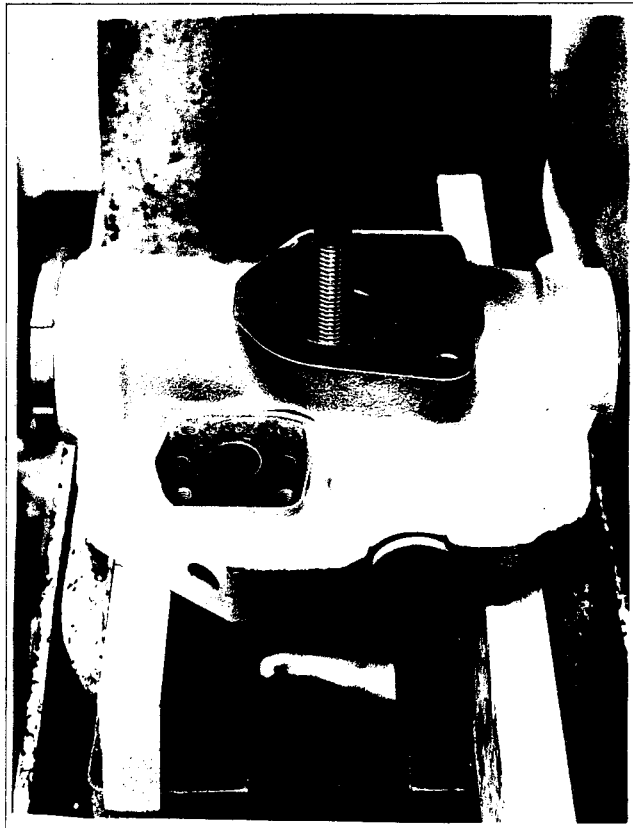
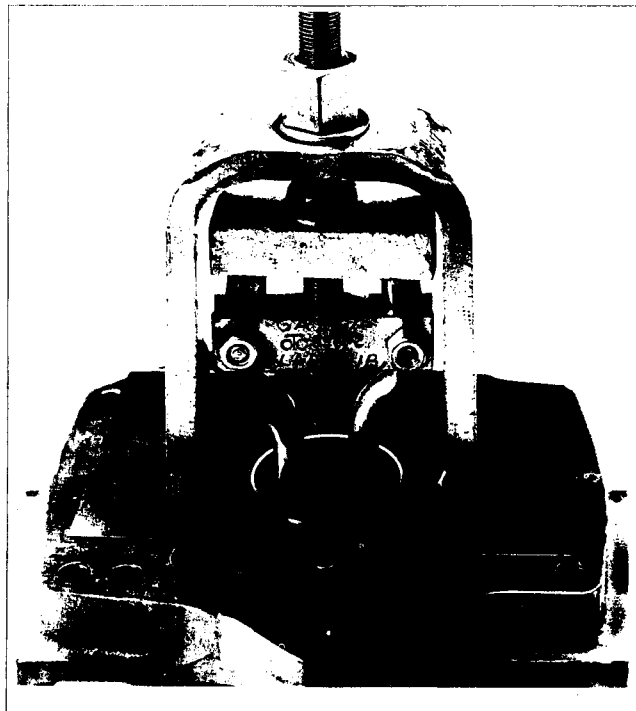

Figure 20. Removal of bearing race from valve block.
Figure 20a. Removal of bearing race from valve block with blind hole.
3. For PVE19/21, remove bearing race (63) from valve block (36). The PVE12 roller bearing is in the valve block. Refer to Figure 20 for removal information and use tool shown in Figure 10 for PVE**G units. Use tool shown in Figure 10a and procedure shown in Figure 20a for PVE** units with a blind hole in valve block (26). BE CAREFUL not to scratch face of the valve block during removal of the race.